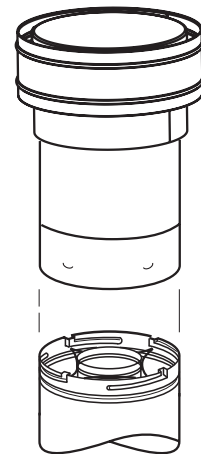

Figure 27
K. Install the vertical termination - The final step involves installation of the SV4.5CGV-1 Vertical Termination. Extend the vent sections to the height as shown in the "Vertical vent termination section" in *Figure 4 on page 6*. The SV4.5CGV-1 Vertical Termination (*Figure 27*) installs in the exact same fashion as any other **Secure Vent** section. Align the termination over the end of the previously installed section, adjusting the radial alignment until the locking dimples of the termination are aligned with the inlets of the four incline channels of the last vent section. Push the termination down until it fully engages, then twist the termination clockwise running the dimples down and along the incline channels until they seat at the end of the channels.